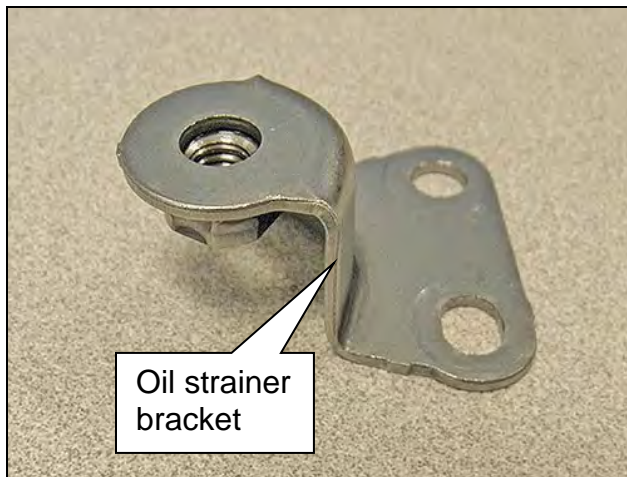

Figure 21
1. Discard the oil strainer bracket (Figure 21).